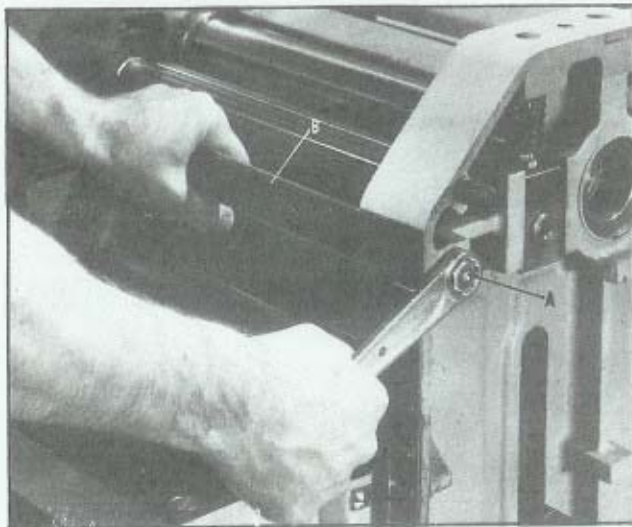

Fig. 21.
3. Loosen screws (A) Fig. 21, on each end of the bar (B).
4. Rotate the bar 180 degrees and tighten screws (A) Fig. 21.